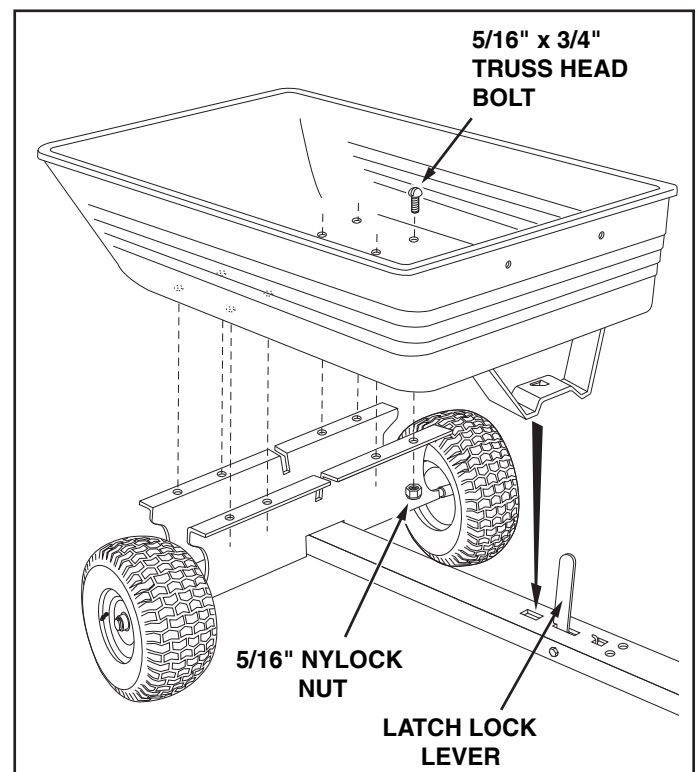

FIGURE 7
10. Place the poly tray down onto the wheel support, positioning it so that the latch stand bracket snaps under the latch lock lever. Fasten the tray to the wheel support using eight 5/16" x 3/4" truss head bolts and 5/16" nylock nuts as shown in figure 7. **Tighten.**